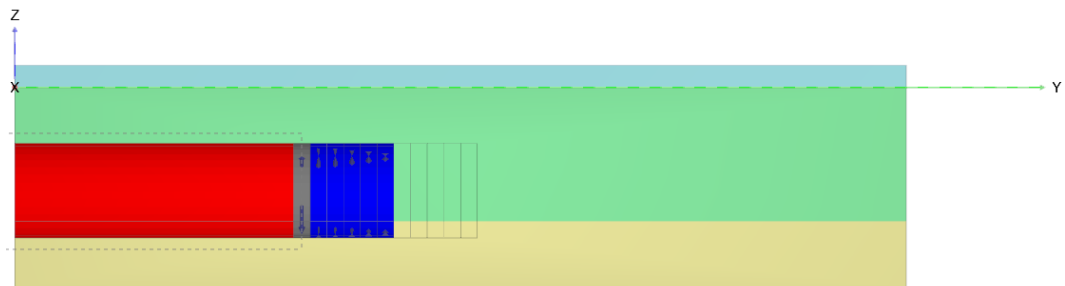

Figure 5-28: Selection of plate (0 m - 25 m)
- 4 Select the outer tunnel surfaces between 0 m and 25 m (inside the wireframe lines) as shown in Figure 5-28 \(p. 107\).